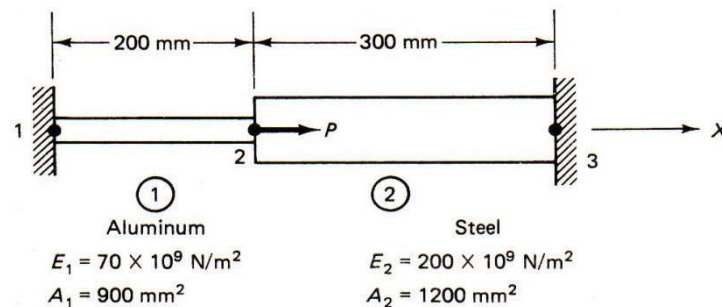

Fig.1.
2. Determine the displacements and support reactions for the uniform bar shown in Fig.1.